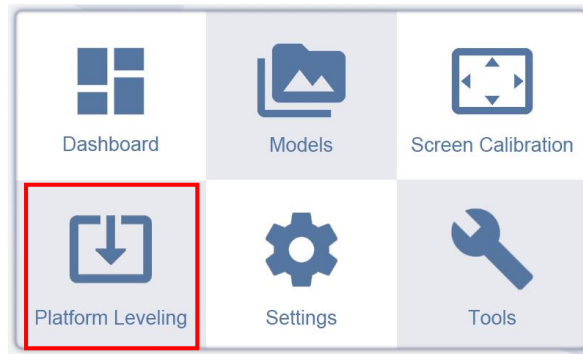

Figure 3-8
1. In the main menu, click on **【Platform Leveling】** as shown in figures 3-8 and 3-9 to enter the platform leveling mode.